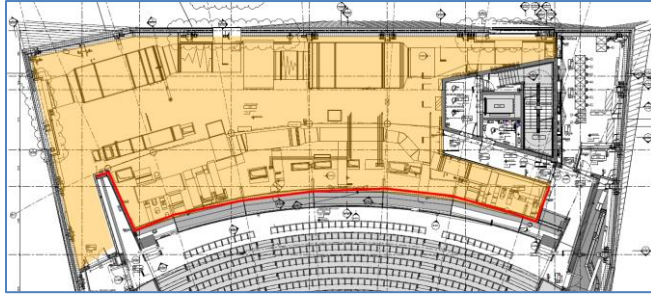

Figure 2
Pipework with running and/or pressurized fluid suspended from or mounted to sensitive floor slab (marked red in figure 2, 3 and 4) require acoustic hangers or acoustic bearings with a minimum static deflection of 2.0 mm
- The theatre balcony floor (see figure 2)